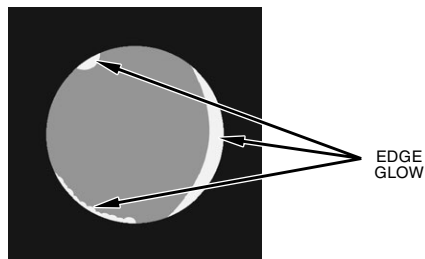

FIGURE 2.4. EDGE GLOW
(2) Edge Glow. Edge glow is a bright area (sometimes sparkling) in the outer portion of the viewing area (see Figure 2.4.).